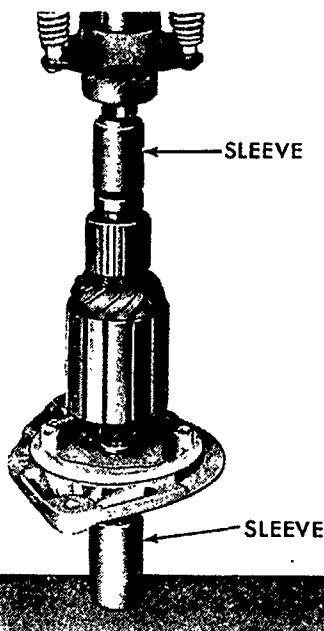

Figure 21
2. Press the drive end plate assembly into position using a suitable sleeve placed over the drive end of the armature shaft to support the inner race of the bearing as shown in Figure 21.